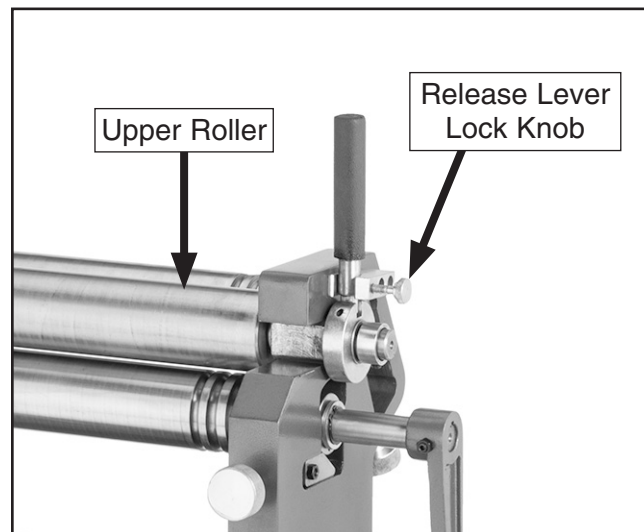

Figure 57. Upper roller secured.
21. Rotate upper roller release lever upward to its vertical position, and tighten release lever lock knob to secure upper roller (see **Figure 57**).